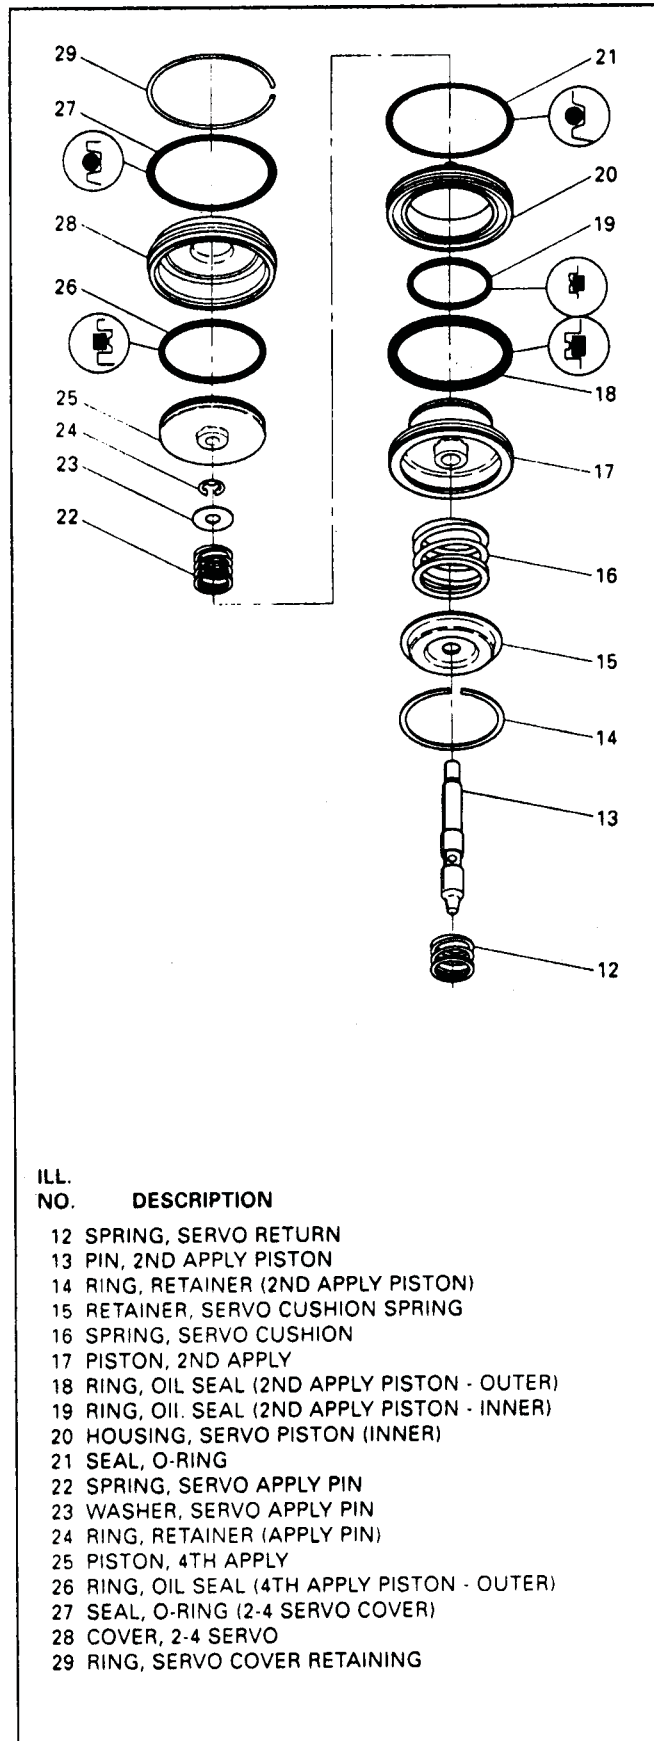

Figure 37
17. Use Figure 37 for parts identification and disassembly procedures.